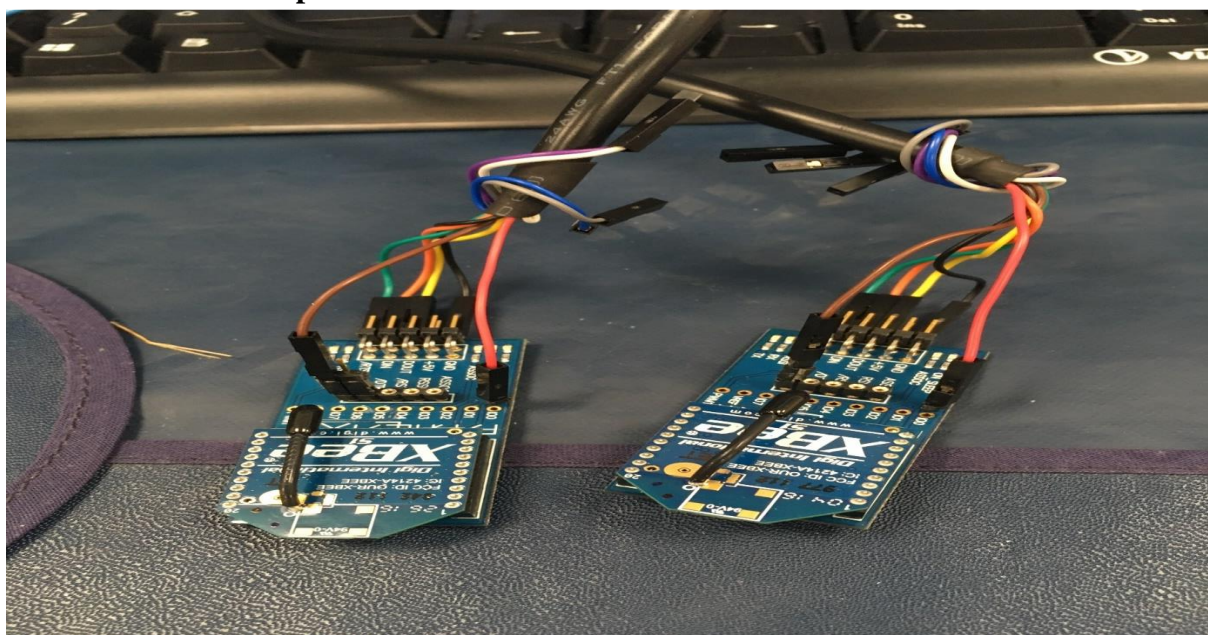

Figure 25. XBee set-up.
Figure 25 shows the set-up of the connection between the XBee devices and the PC. The modules are connected to the PC via FTDI cables (1). The FTDI cables have 10 wires for serial connection each serving a different purpose. For this project, only 6 of them are needed: